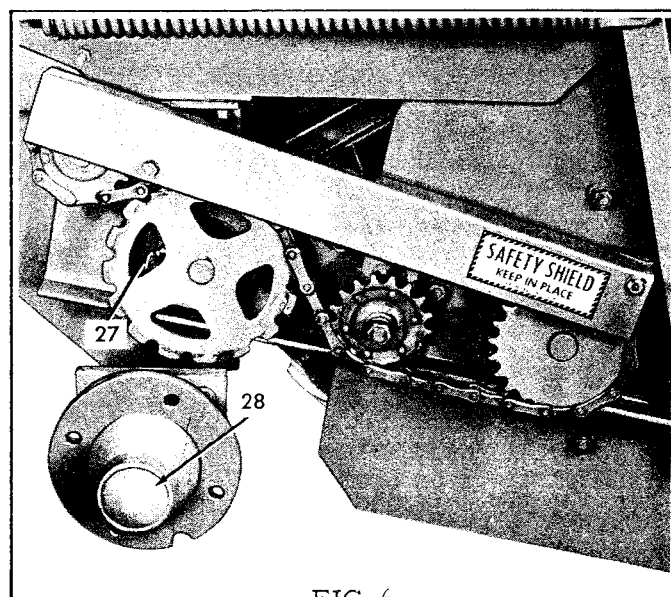

FIG. 6
- 27. R.H. pick-up bearing (Fig. 6)
- 28. Wheels - (2) clean, pack and adjust once each year. (Fig. 6)